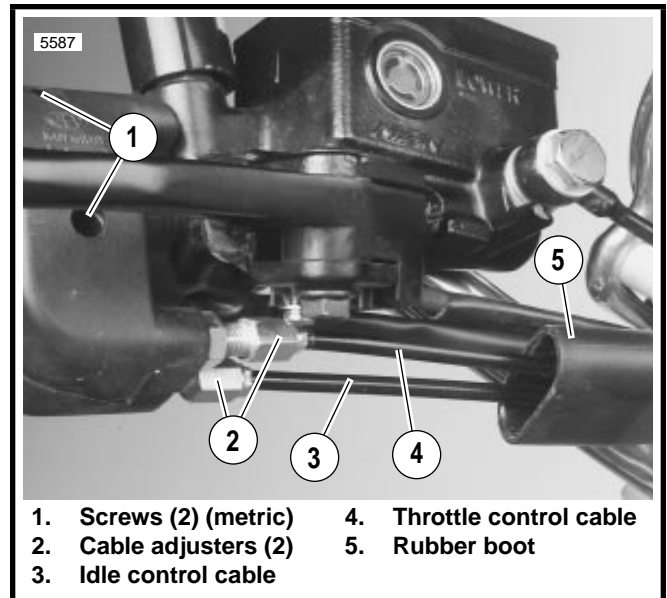
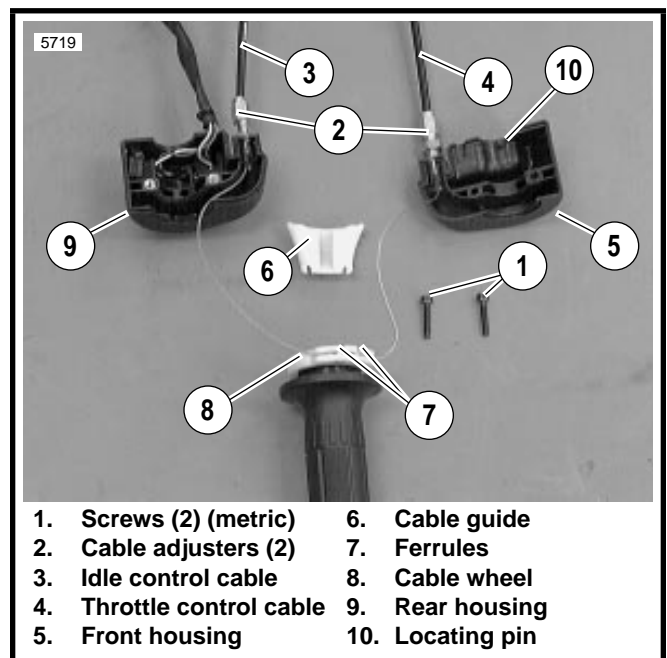

Figure 2-50. Throttle Control Cables
Figure 2-51. Cable Connections
1. See Figure 2-50. Slide rubber boot (5) off the cable adjusters (2). Loosen jam nut (metric) on each adjuster.
2. Remove two screws (1) (metric). Separate housings from handlebar.
3. See Figure 2-51. Unhook ferrules (7) from cable wheel (8).
4. Remove cables from under cable guide (6).
5. Remove cables from housings (5, 9) by loosening cable adjusters (2) (metric).
1. See Figure 2-51. Screw cable assemblies (3, 4) into housings (5, 9). Throttle control cable (4) has a larger fitting end and is positioned inside the front housing (5). Idle control cable (3) has a smaller fitting end and is positioned inside the rear housing (9).
2. Run cables in grooves on cable guide (6).
3. Attach ferrules (7) to cable wheel (8). When properly assembled, notches for ferrules will be at 12 o'clock.
4. Position housings on right handlebar by engaging locating pin (10) on front housing with hole in handlebar. Attach housings with screws (1) (metric). Tighten to 12-17 **in-lbs** (1.4-1.9 Nm).